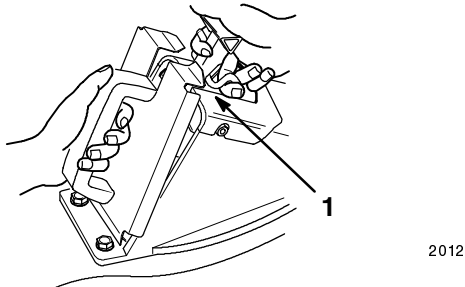

Figure 53
4. Insert the plug into the discharge tunnel opening and fit the lower section into the opening first (Fig. 53).
5. Lift the door latch on the door handle (Fig. 53), and push the top of the plug all the way in while moving the door handle rearward.